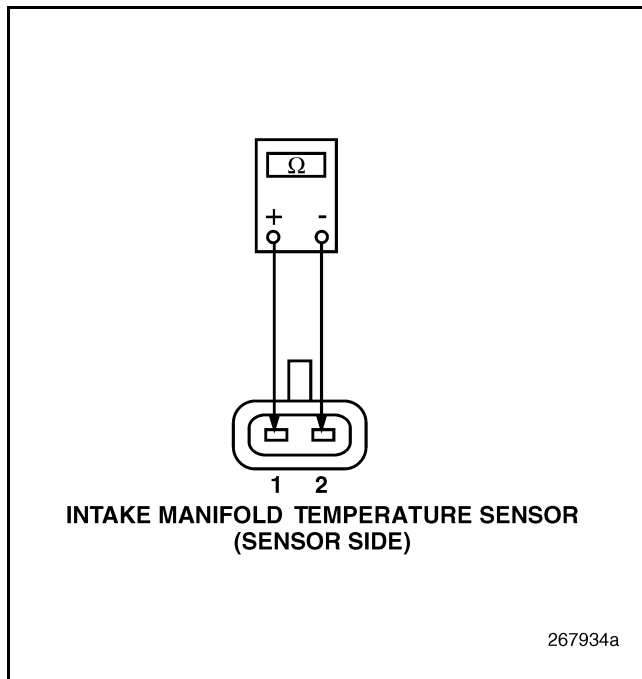

Figure 212
3. Measure the resistance across the pins of the IMT Sensor with the air temperature between 55° and 180°F (10° and 82°C) (see Figure 212).